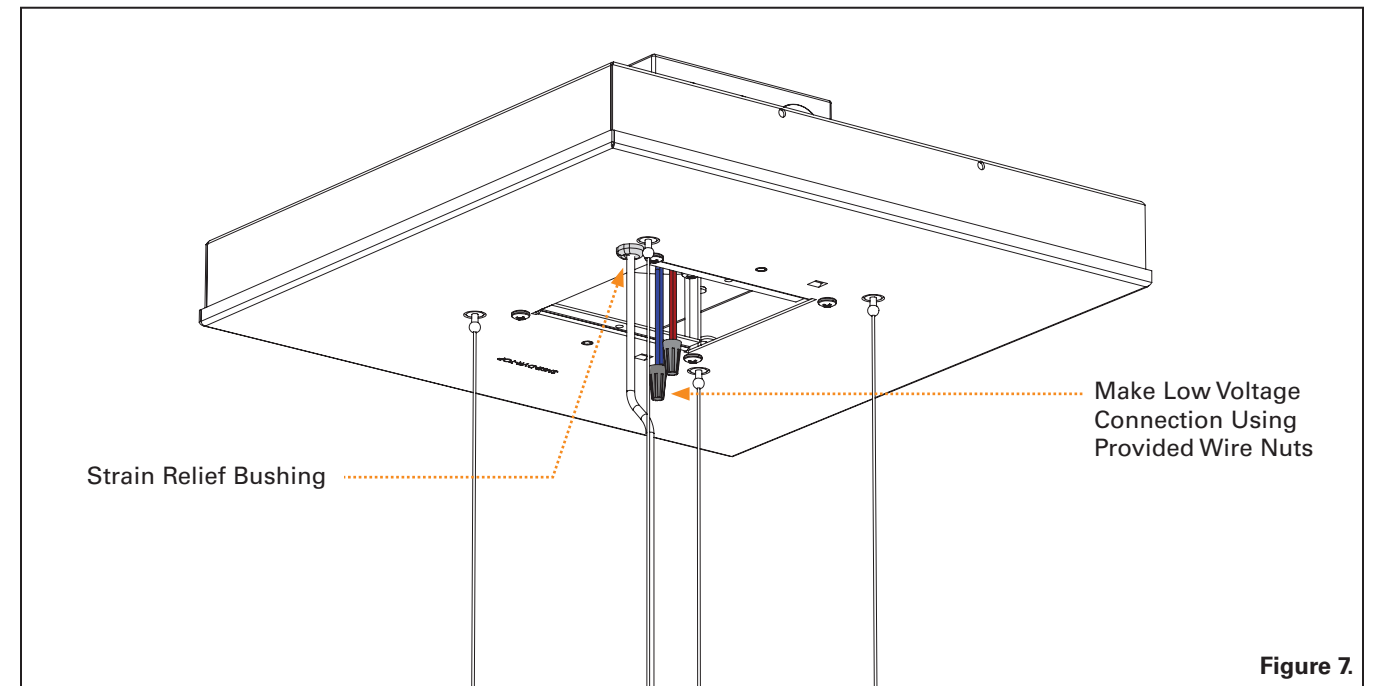

Figure 7.
Step 7. Insert the Air Craft Cables into the spherical shape Cable Grippers in the Cover of the Driver Compartment. Raise Light Guide Panel by continuing to feed the Air Craft Cables through the Grippers, pulling the excess cable out of the Access opening as the light fixture is raised. To lower the cables, gently push up on the neck of the Gripper. Ref. Figure 7.